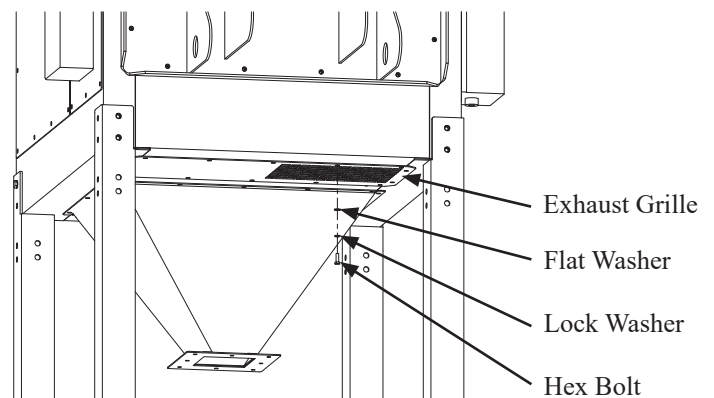

FIGURE 12A
1. Remove the bolts from the exhaust grille (Figure 12A).